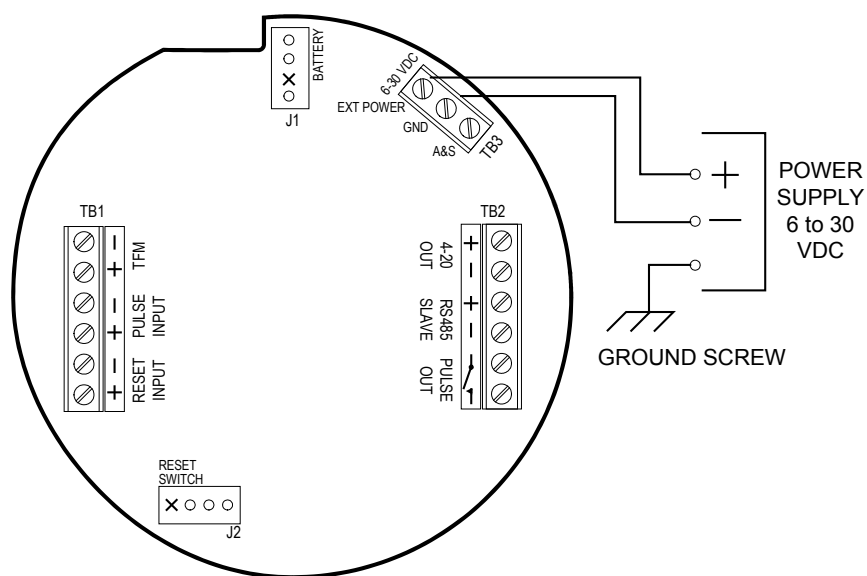

Figure 2.7—External power supply wiring
4. Connect wiring for external power, if appropriate. See Figure 2.7, page 25.
The MC-III WP can be connected to a remote power supply by a two-conductor cable (Figure 2.7, page 25). The power supply and cable must be capable of supplying 6 to 30 VDC @ 10 mA. This capability is available only if the 4-20 mA rate output is not used.
**Caution:** The instrument must be grounded with a protective earth grounding conductor in accordance with national and local electrical codes. To ground the instrument, connect a ground wire to the internal ground connection screw located inside the enclosure (Figure 2.7). For DC-powered installations, route the protective earth grounding conductor into the enclosure with the incoming power conductors.